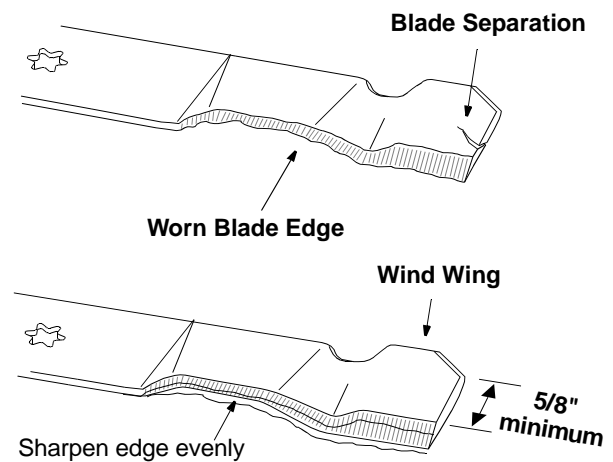

Figure 12
- Remove equal amounts of metal from both ends of the blades along the cutting edges, parallel to the trailing edge, at a 25° to 30° angle. See Figure 12 .
- If the cutting edge of the blade has already been sharpened to within 5/8" of the wind wing radius, or if any metal separation is present, replace the blades with new ones. See Figure 12 .